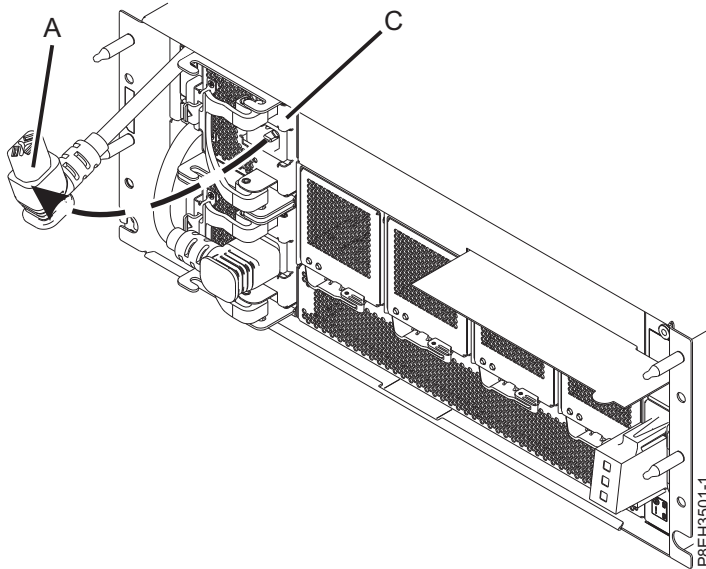

Figure 3. Disconnecting the power cord from a power supply in the EMX0 PCIe3 expansion drawer
2. Disconnect the power cord from the power supply by pulling the power cord (A) out of the power supply (C) in the direction shown in Figure 3.